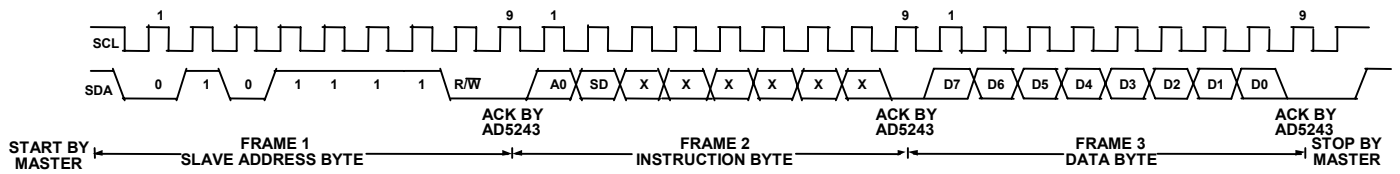
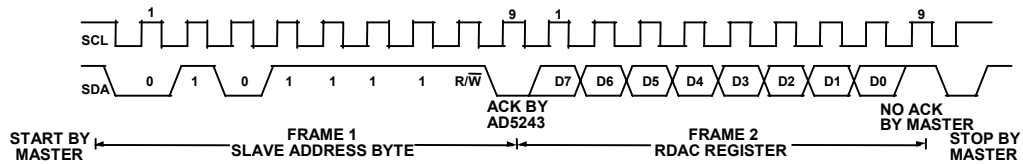
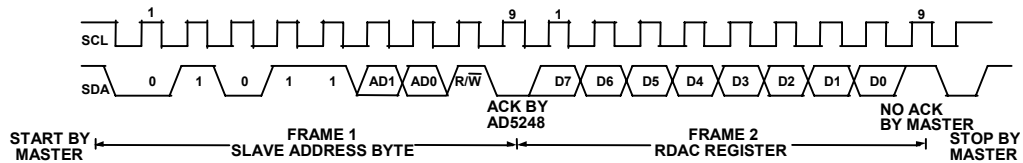

Figure 13. Writing to the RDAC Register – AD5243
Figure 15. Reading Data from a Previously Selected RDAC Register in Write Mode – AD5243
Figure 16 Reading Data from a Previously Selected RDAC Register in Write Mode – AD5248
1. The master initiates data transfer by establishing a START condition, which is when a high-to-low transition on the SDA line occurs while SCL is high (see Figure 13). The following byte is the slave address byte, which consists of the slave address followed by an R/\overline{W} bit (this bit determines whether data will be read from or written to the slave device). The AD5243 has a fixed slave address byte whereas the AD5248 has two configurable address bits AD0 and AD1 (see Table 5).
3. In the read mode, the data byte follows immediately after the acknowledgment of the slave address byte. Data is transmitted over the serial bus in sequences of nine clock pulses (a slight difference with the write mode, where there are eight data bits followed by an acknowledge bit). Similarly, the transitions on the SDA line must occur during the low period of SCL and remain stable during the high period of SCL (see Figure 15 and Figure 16).
Note that the channel of interest is the one that is previously selected in the Write Mode. In the case where users need to read the RDAC values of both channels, they need to program the first channel in the Write Mode and then change to the Read Mode to read the first channel value. After that, they need to change back to the Write Mode with the second channel selected and read the second channel value in the Read Mode again. It is not necessary for users to issue the Frame 3 data byte in the write mode for subsequent readback operation. Users should refer to Figure 15 for the programming format.
4. After all data bits have been read or written, a STOP condition is established by the master. A STOP condition is defined as a low-to-high transition on the SDA line while SCL is high. In write mode, the master will pull the SDA line high during the tenth clock pulse to establish a STOP condition (see Figure 13) In read mode, the master will issue a No Acknowledge for the ninth clock pulse (i.e., the SDA line remains high). The master will then bring the SDA line low before the tenth clock pulse which goes high to establish a STOP condition (see Figure 15 and Figure 16).